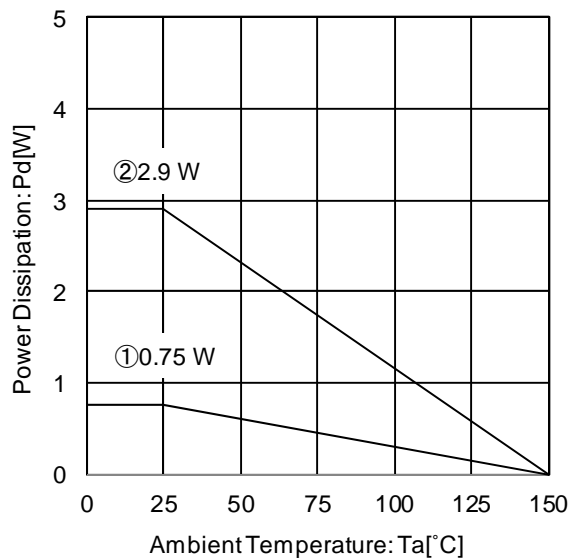
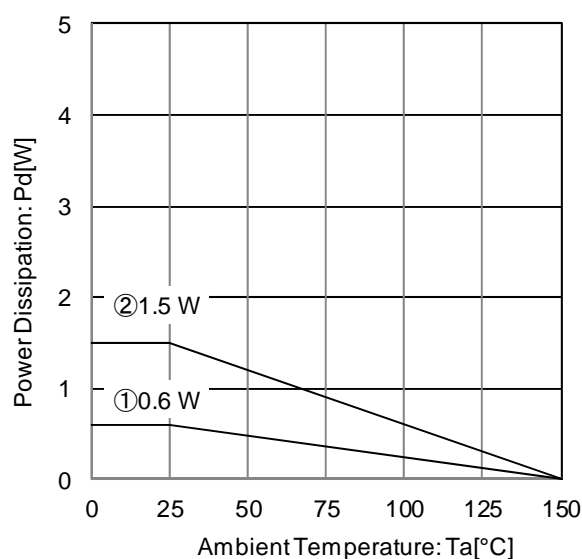

Figure 25. Package Data
Figure 27. Package Data
Refer to the heat mitigation characteristics illustrated in Figure 25 to Figure 27 when using the IC in an environment of  $T_a \geq 25^\circ\text{C}$ . The characteristics of the IC are greatly influenced by the operating temperature, and it is necessary to operate under the maximum junction temperature  $T_{j\text{max}}$ . Even if the ambient temperature  $T_a$  is at  $25^\circ\text{C}$  it is possible that the junction temperature  $T_j$  reaches high temperatures. Therefore, the IC should be operated within the power dissipation range.
At  $T_a=125^\circ\text{C}$  with Figure 25 ② condition, the calculation shows that ca 56.4mA of output current is possible at 10.2V potential difference across input and output.
At  $T_a=125^\circ\text{C}$  with Figure 25 ② condition, the calculation shows that ca 67.7mA of output current is possible at 8.5V potential difference across input and output.
At Ta=125°C with Figure 27 ② condition, the calculation shows that ca 29.4mA of output current is possible at 10.2V potential difference across input and output.
At Ta=125°C with Figure 27 ② condition, the calculation shows that ca 35.2mA of output current is possible at 8.5V potential difference across input and output.